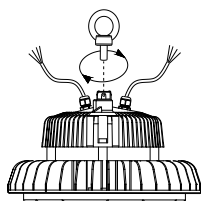

Figure 8
1. Please screw the lifting ring into the high bay light fixture, then tighten firmly. (Figure 8)